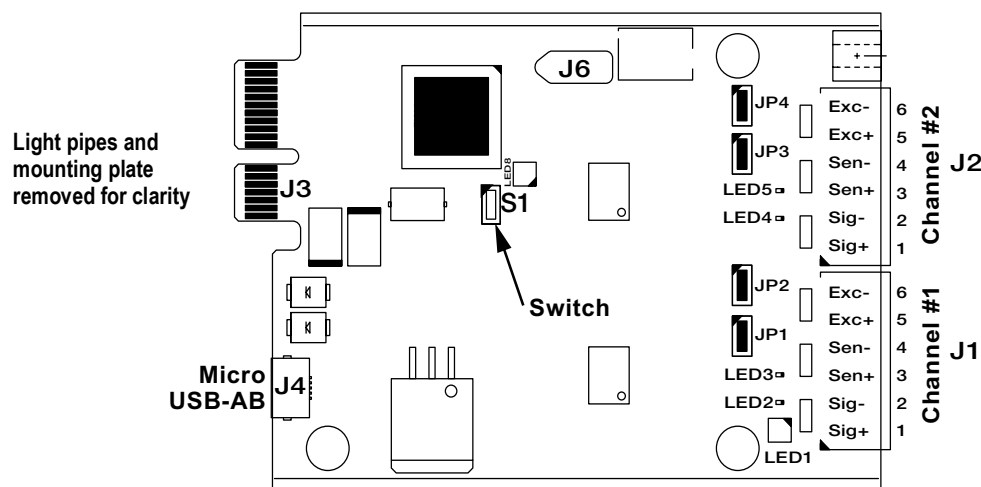

Figure 12-6. First Generation Single and Dual A/D Scale Cards
6. Using a USB cable (with type A connection on one end and a micro connection on the other) (See Figure 12-6), connect the scale card to the 1280 CPU board.